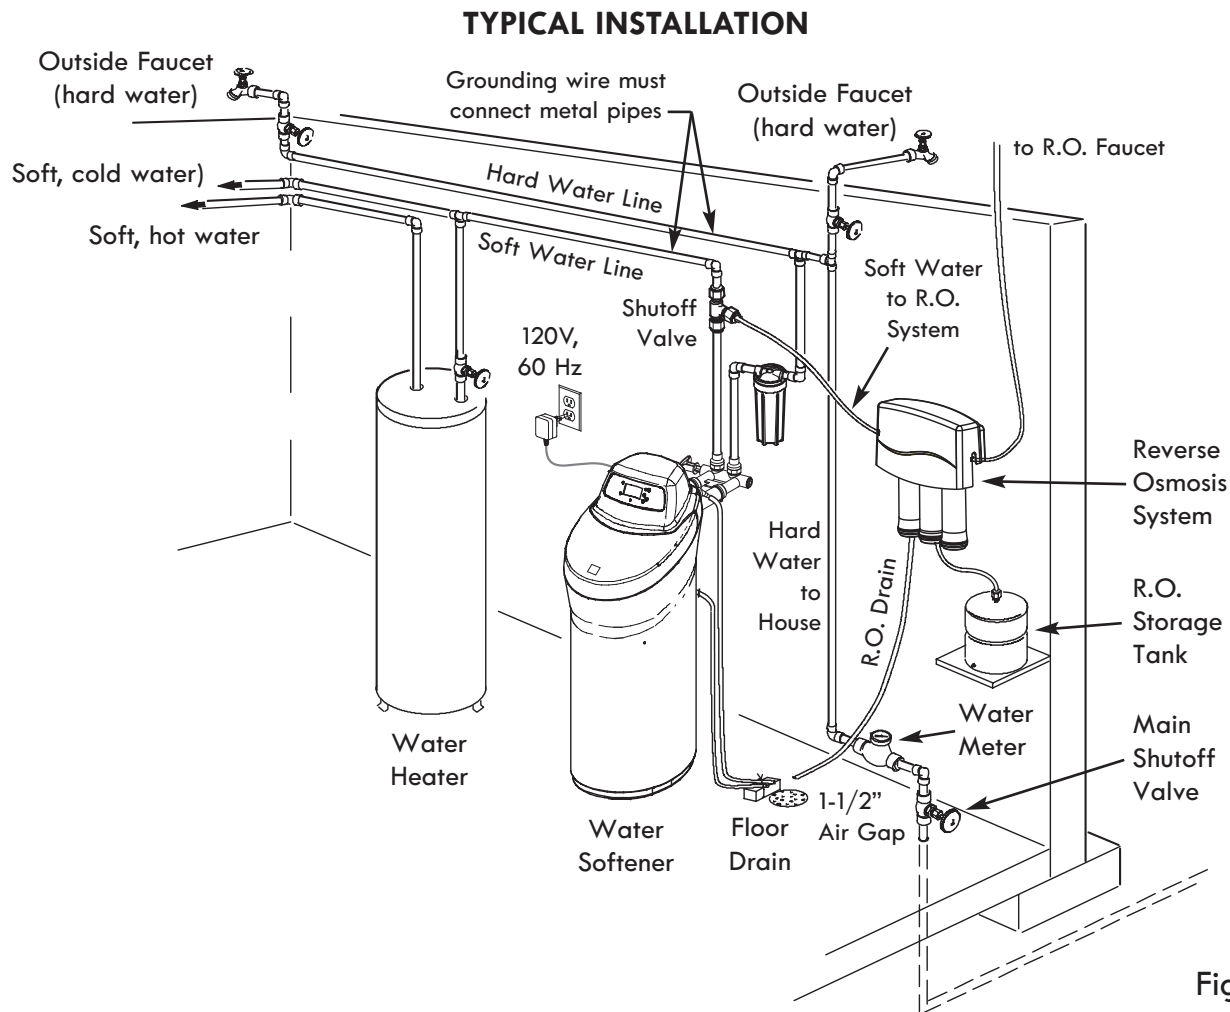

Figure 4
2. Place as close as possible to a water drain such as a floor drain, laundry tub, sump or standpipe (See Fig. 4).
4. Keep outside faucets on hard water to save soft water and salt. See Fig. 4.
7. A grounded, 120V, 60 Hz electrical outlet is needed near the softener to plug in the power supply (See Fig. 4). Be sure the outlet and power supply are in an inside location, protected from wet weather. Use a continuously “live” outlet, which cannot be accidentally switched off.